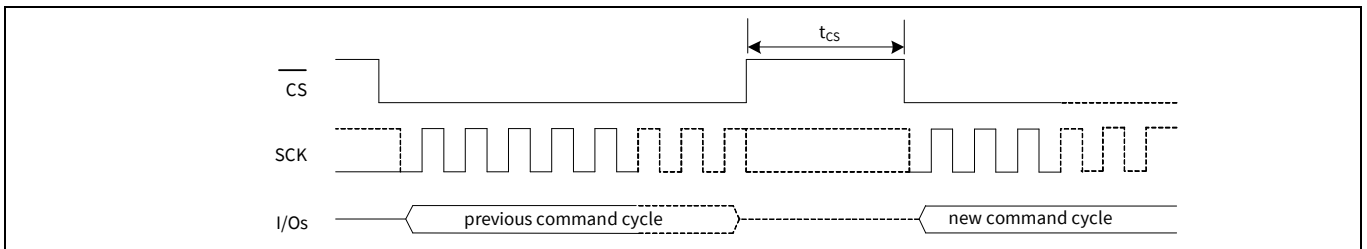

Figure 117 Chip deselect (\overline{CS} HIGH) - t_{CS} timing
23. t_{CS} is the minimum chip deselect ($\overline{\text{CS}}$ HIGH) time before the new command cycle starts in a specific SPI mode (SPI, DPI or QPI). This parameter ensures that previous operation is successfully completed before the host starts a new command cycle. Refer to **Figure 117**.
- 23. t_{CS} is the minimum chip deselect (\overline{CS} HIGH) time before the new command cycle starts in a specific SPI mode (SPI, DPI or QPI). This parameter ensures that previous operation is successfully completed before the host starts a new command cycle. Refer to **Figure 117**.
28. t_{CS} is the minimum chip deselect ($\overline{\text{CS}}$ HIGH) time before the new command cycle starts in a specific SPI mode (SPI or QPI). This parameter ensures that previous operation is successfully completed before the host starts a new command cycle. Refer to **Figure 117**.
- 28. t_{CS} is the minimum chip deselect (\overline{CS} HIGH) time before the new command cycle starts in a specific SPI mode (SPI or QPI). This parameter ensures that previous operation is successfully completed before the host starts a new command cycle. Refer to **Figure 117**.